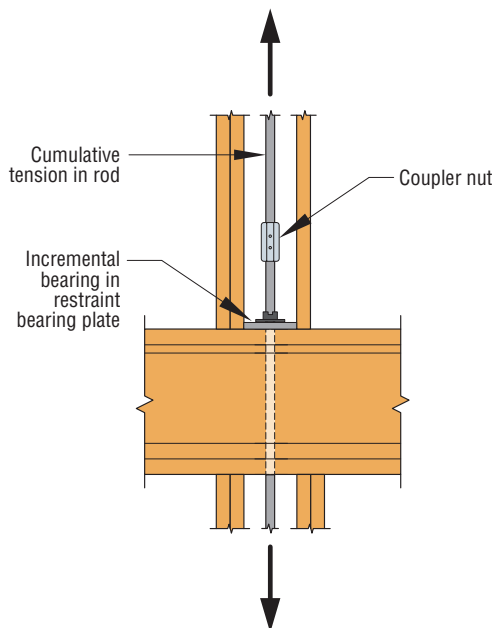

Figure 2
4. The appropriate couplers should then be selected based on rod strength and diameter. These will be used to connect threaded rods to one another as well as coupling to the anchor bolts within the rod tiedown system. See Figure 2. Note that Simpson Strong-Tie coupler nuts exceed the tensile capacity of the rod.